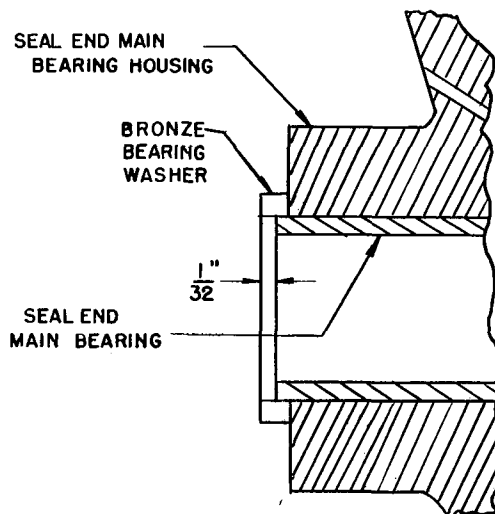

FIG. 44 - SEAL END MAIN BEARING POSITION
3. Pull the bearing into the housing with the puller until it is positioned as shown in Fig. 44. The edge of the bearing is  $\frac{1}{32}$ " below the surface of the bronze bearing washer.